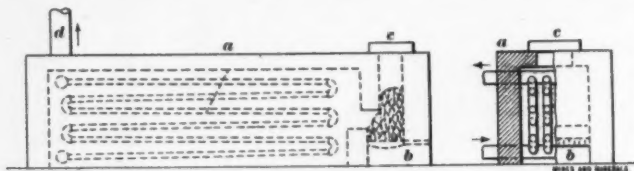

FIGURE 7.
*Hot Water Air Reheater.*—Figure 7 shows a reheater recently installed at the Chapin Mine, a hot water heater *a* being used in connection with an air heater *b*. The latter is very similar to a feed water heater. The hot water ascends from the heater into an expanding tank, circulates through the air heater, imparting its heat to the air, and returns to the heating stove. Valves are provided by which the air can be shut out of the heater at will.